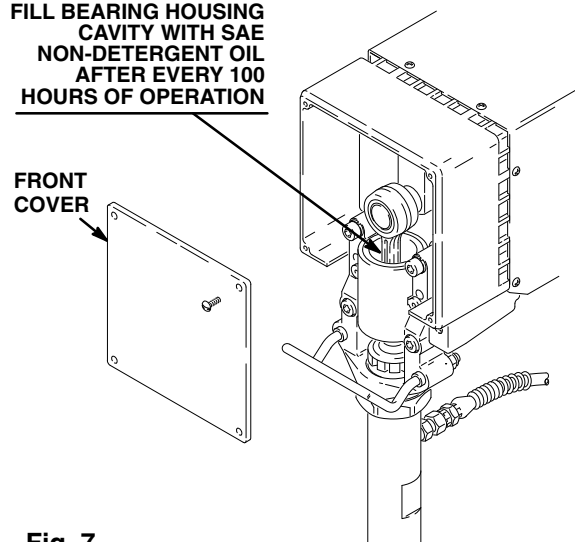

Fig. 7
3. **Lubricate the bearing housing** after every 100 hours of operation. First relieve pressure. Remove the front cover. Fill the bearing housing cavity with SAE 10 non-detergent oil. See Fig. 7.